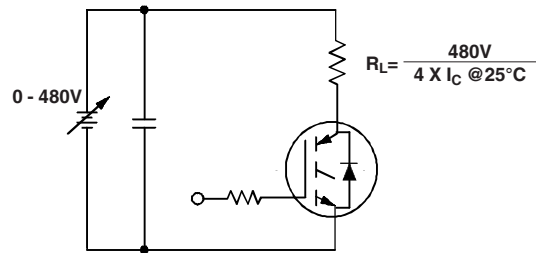

Figure 20. Pulsed Collector Current Test Circuit
- ① Repetitive rating: $V_{GE} = 20V$; pulse width limited by maximum junction temperature (figure 20)